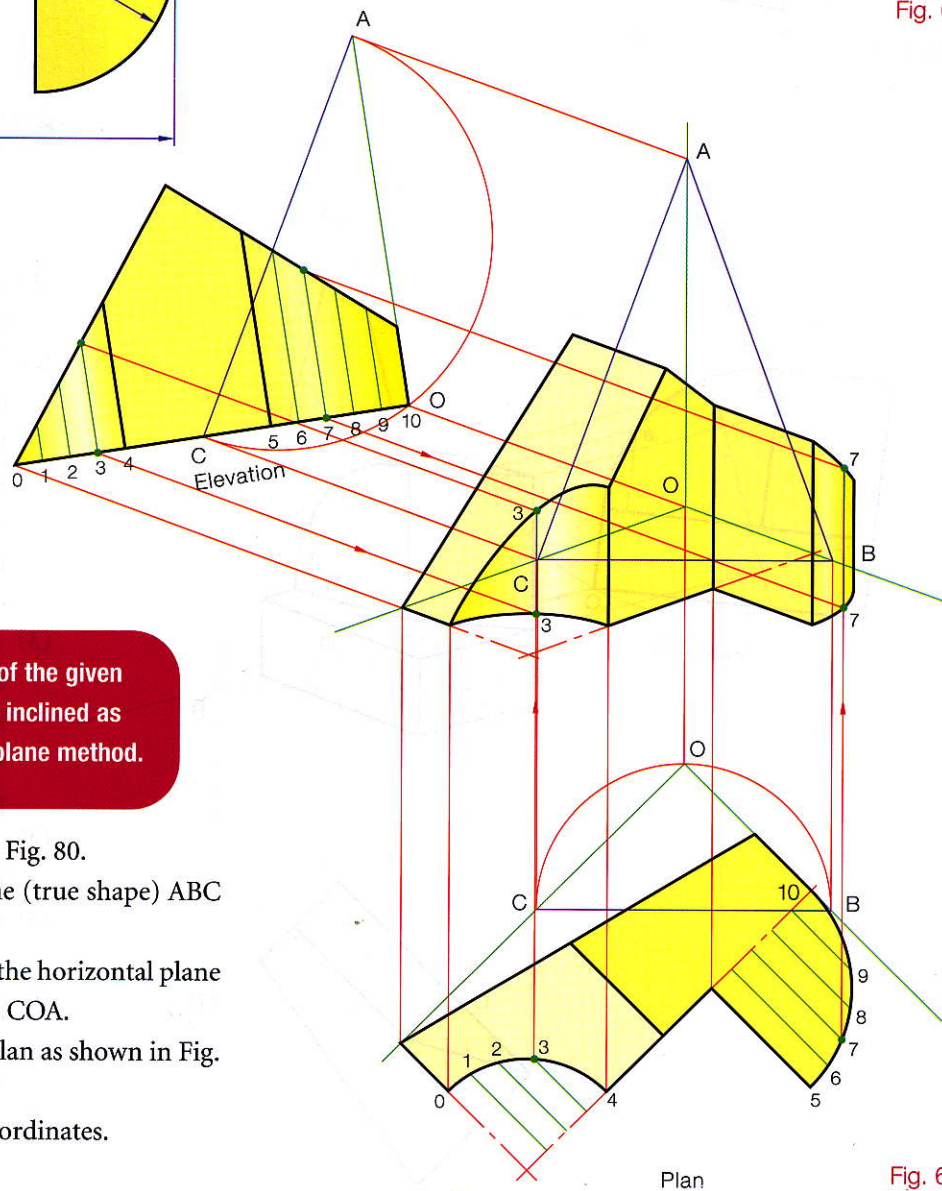

Fig. 6.81
- (2) Draw the axonometric plane (true shape) ABC as before.
- (3) Find the true shape of both the horizontal plane COB and the vertical plane COA.
- (4) Draw in the elevation and plan as shown in Fig. 6.81.
- (5) Divide up the curves using ordinates.
- (6) Project the dimetric view.